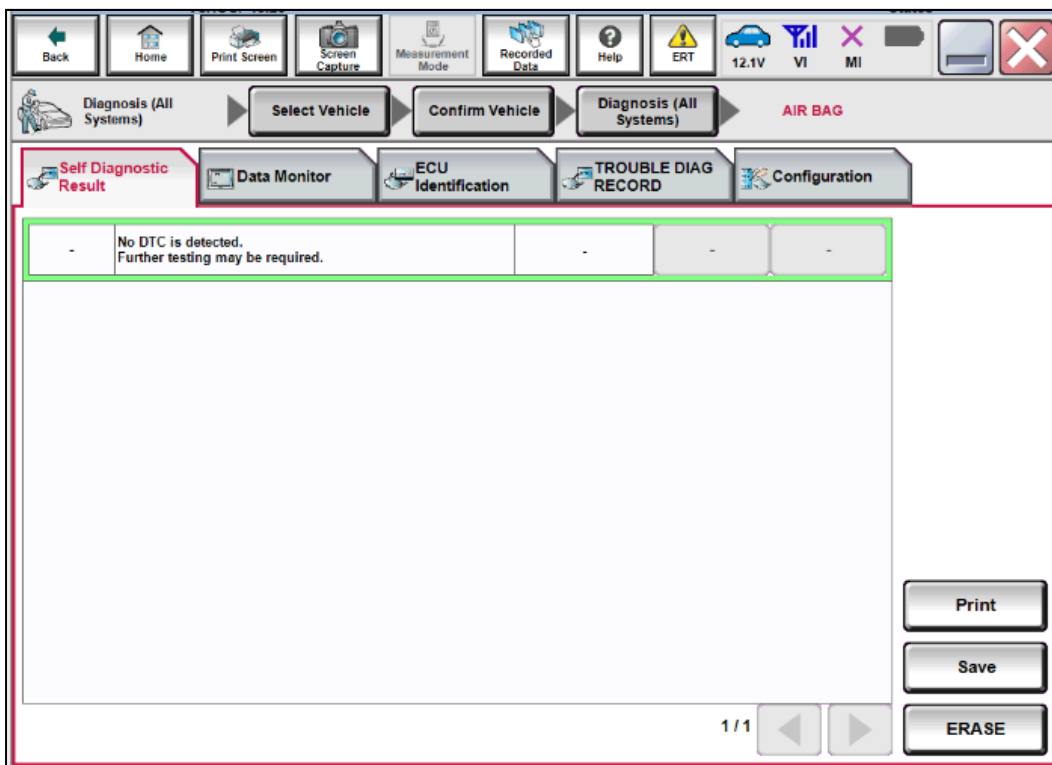

Figure 16
- After selecting **Close**, the screen in Figure 16 should display (the DTC is erased).